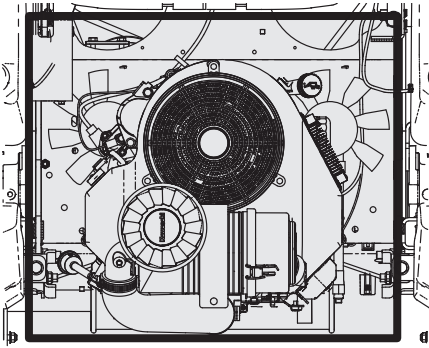

Figure 35
- Clean around the exhaust manifold, fuses, all wiring and harnesses, muffler pipe, muffler shield, engine intake screens and cooling fins, etc. (Figure 35).